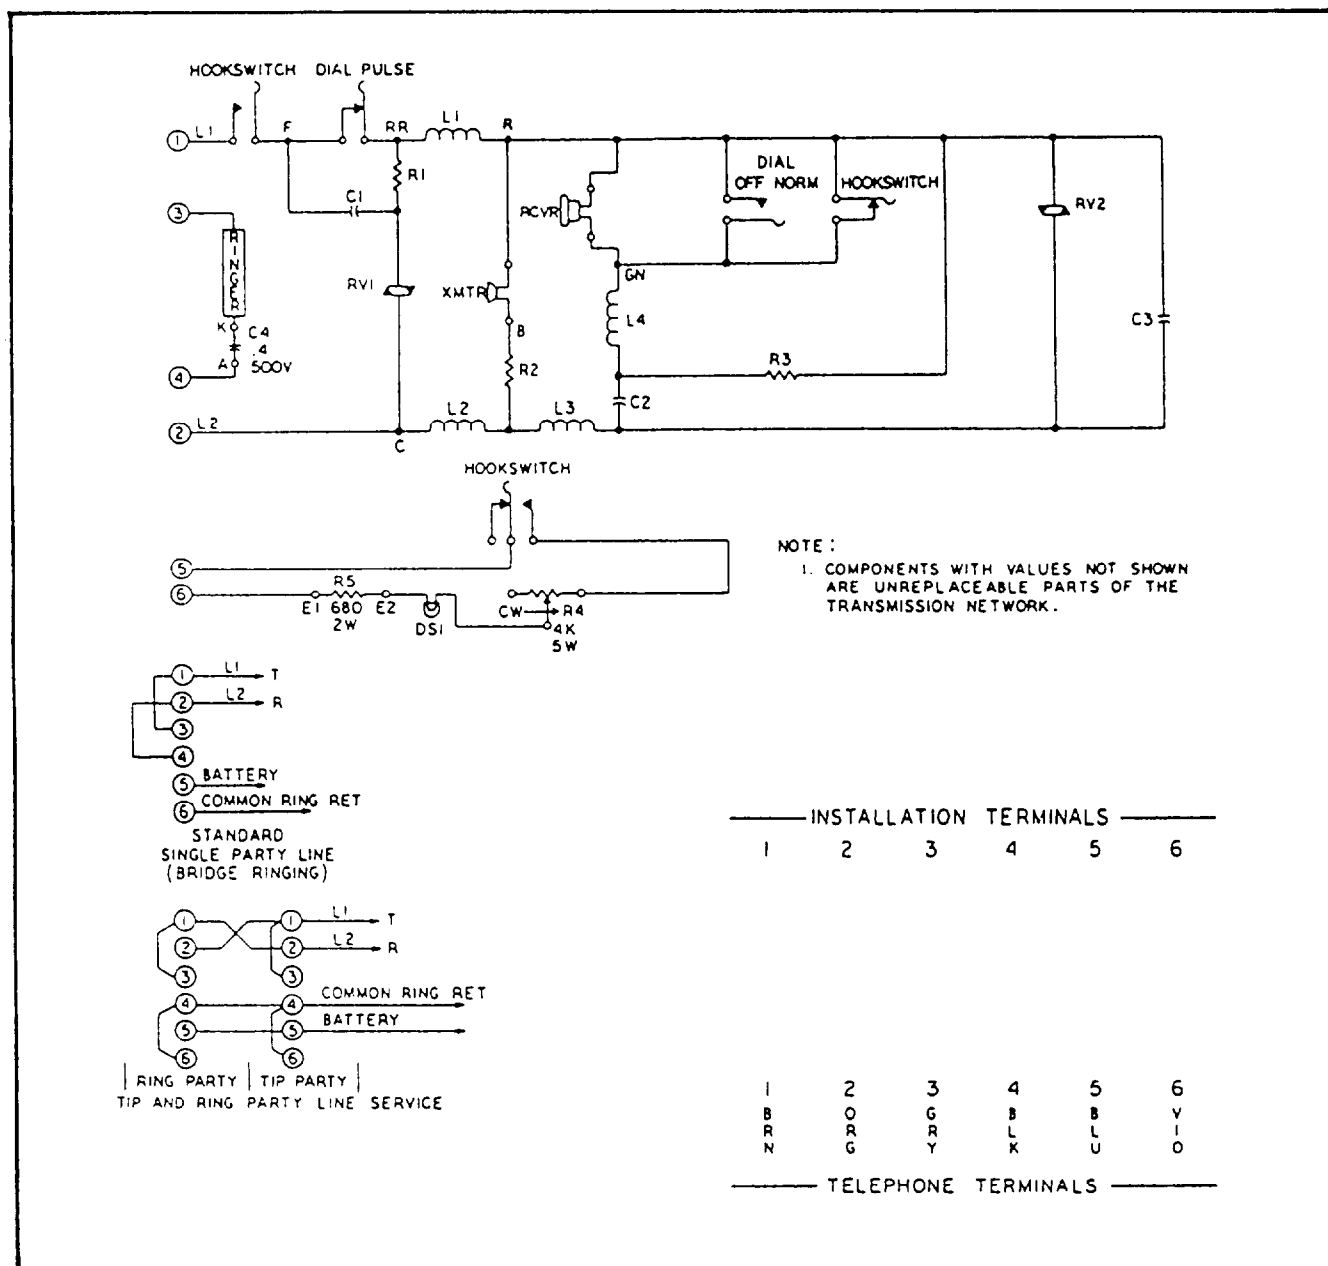

Figure 6-5.—Schematic diagram of the type G (version 1) telephone set
control, which is an adjusting screw. By using a screwdriver, you can access the dimmer control through a cutout provided in the cover. The lamp and lamp dimmer control circuit (fig. 6-5) is a basic dc circuit where dc voltage is applied to the telephone set terminal board on terminals 5 and 6. Terminals 4 and 6 will be connected to lead JJ9 of the ship's cable. The voltage is extended to the lamp and lamp dimmer control circuit through a pair of hookswitch contacts that close when the handset is removed from the handset holder.
**RINGER.**— A gong and clapper-type ringer is used in the telephone set to alert personnel of an incoming call. The ringer circuit (fig. 6-5) is a basic ac circuit where 75 to 110 volts ac, 20 Hz is applied to terminals 3 and 4 of the telephone set terminal board. Capacitor C4, located in the transmission network, tunes the ringer and blocks dc voltage.
The ringer can be connected to the telephone line for one-party (private-line) service or two-party (party-line) service (fig. 6-5). For one-party service,